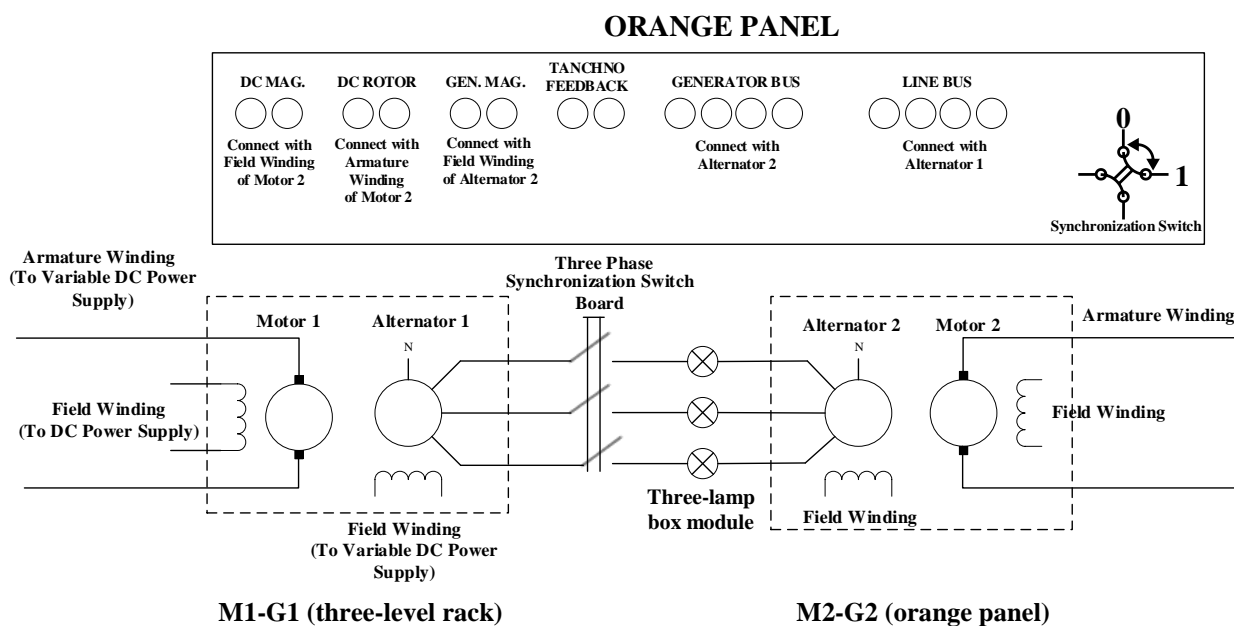

Figure 1: Circuit for synchronised operation of two synchronous generators
1. Make sure that the circuit connection is as shown in Figure 1. Do not change the connection without permission from the lab demonstrator or technician. The motor-generator set attached to the three-level rack is named M1-G1 while the motor-generator set attached to the orange panel is named M2-G2. G1 represents the Main Grid while G2 is the generator that will be synchronised with the Main Grid.